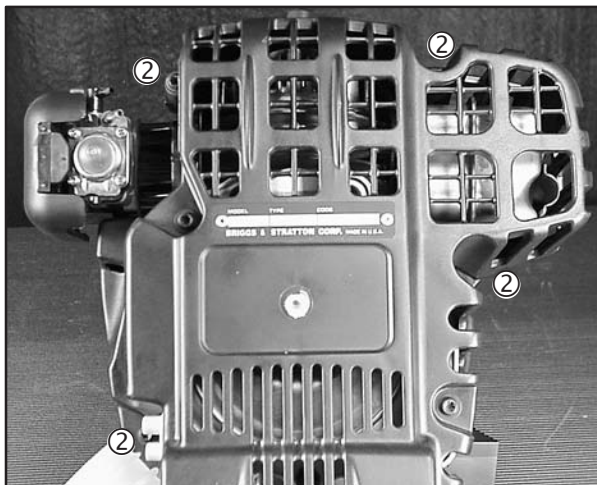

Fig. 12
1. Install 4 screws (2) from cylinder shield side, Fig. 12.